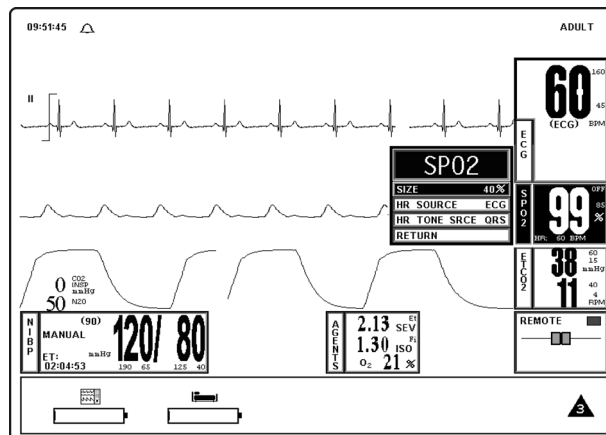

Figure 4-11. The SpO2 Menu
4.3.3 SpO2 Menu (See **Figure 4-11**) The menu for the SpO2 is brought up with the selection of the **SPO2** Menu-Select icon. *This menu has a time-out feature. If no action is taken for approximately 60 seconds, the monitor will automatically return to the Normal Screen.*